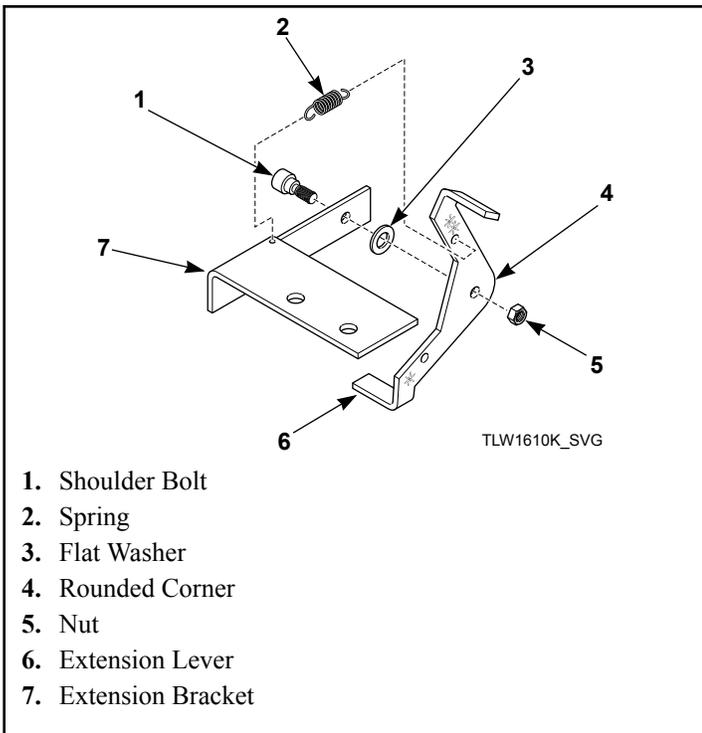

Figure 14
3. Install extension lever with rounded corner facing away from extension bracket using shoulder bolt, flat washer and nut. Refer to *Figure 14*.
4. Install spring to extension bracket with hook facing down. Install other end of spring to extension lever with hook facing left while standing in front of unit. Refer to *Figure 14*.